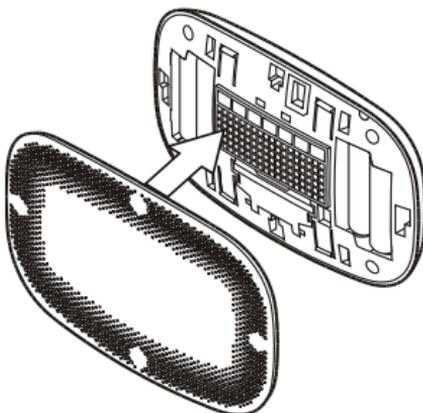

Figure 6. Install the front housing
7. Align the front housing of the thermostat with the back housing and push until the housing sections are locked together (Figure 6).